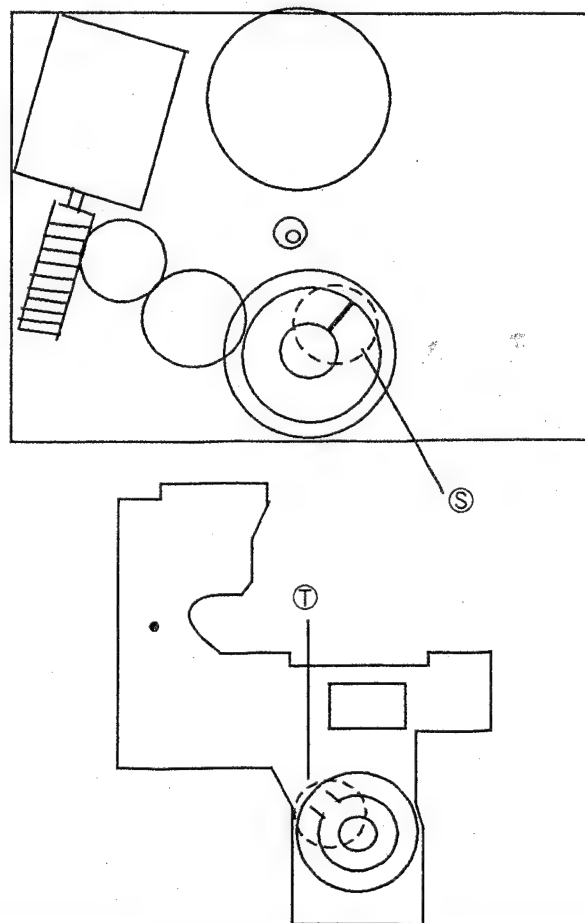

Fig. 11 Gear position
- (When installing the cam switch circuit board, assemble the circuit board so that part ⑤ meets part ①. Fig. 11)